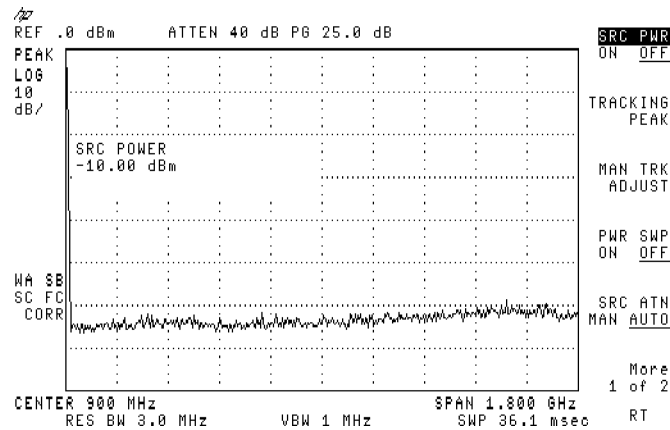

Figure 3-13. Setting Up the Tracking Generator (HP 8591E)
3. Press **SRC PWR ON OFF**. The source power becomes the active function (SWR PWR in inverse video) however, the source power has not been turned on. See Figure 3-13.